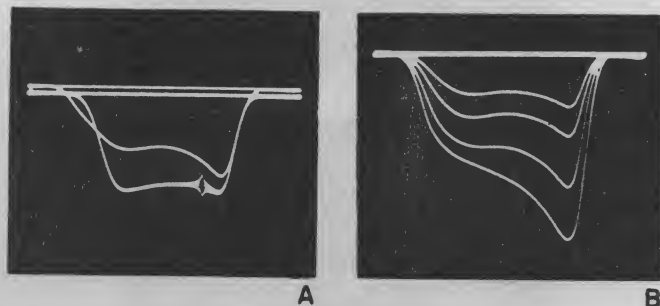

Fig. 10-2. Distortion of i-f sweep curves.
To check whether there is curve distortion due to signal level of either sweep or marker generator, the technician should vary the generator output control up and down. If the generator level was properly maintained, there will be little or no change in the shape of the response curve for small adjustments of generator level in either direction. If there is a change in shape (other than amplitude), then the generator signal level has distorted the curve. Figure 10-2 (B) shows the three curves closest to base line affected very little by change in signal amplitude. The fourth curve, with greatest input, displays a decided change in shape.
Excessive coupling of marker generator may cause loading of the circuit. This can be detected by completely removing the marker generator lead from the circuit. If the response curve is altered, looser marker coupling is required. Figure 10-2 (A) and (B) illustrates the overload conditions just described.